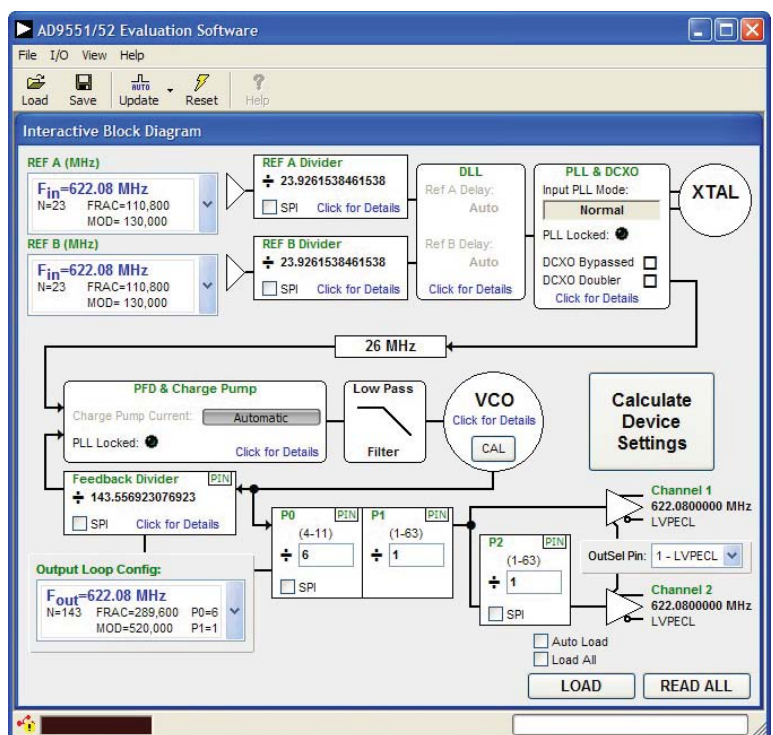

Figure 4. AD9551 Evaluation Software Main Window
4. Select 622.08 MHz for the input frequency in the **REF A (MHz)** box in the main window of the evaluation software (see Figure 4 and the Reference Input Boxes section for more information).
5. Select 622.08 MHz for the output frequency in the **Output Loop Config:** box in the main window of the evaluation software (see Figure 4).
The main window of the AD9551 evaluation board software is comprised of subsections that correspond to the major functional blocks of the AD9551 (see Figure 4). These subsections, most of which have their own window, are outlined in this section. From the main window, the window for each functional block can be accessed by clicking the appropriate box in the main window.